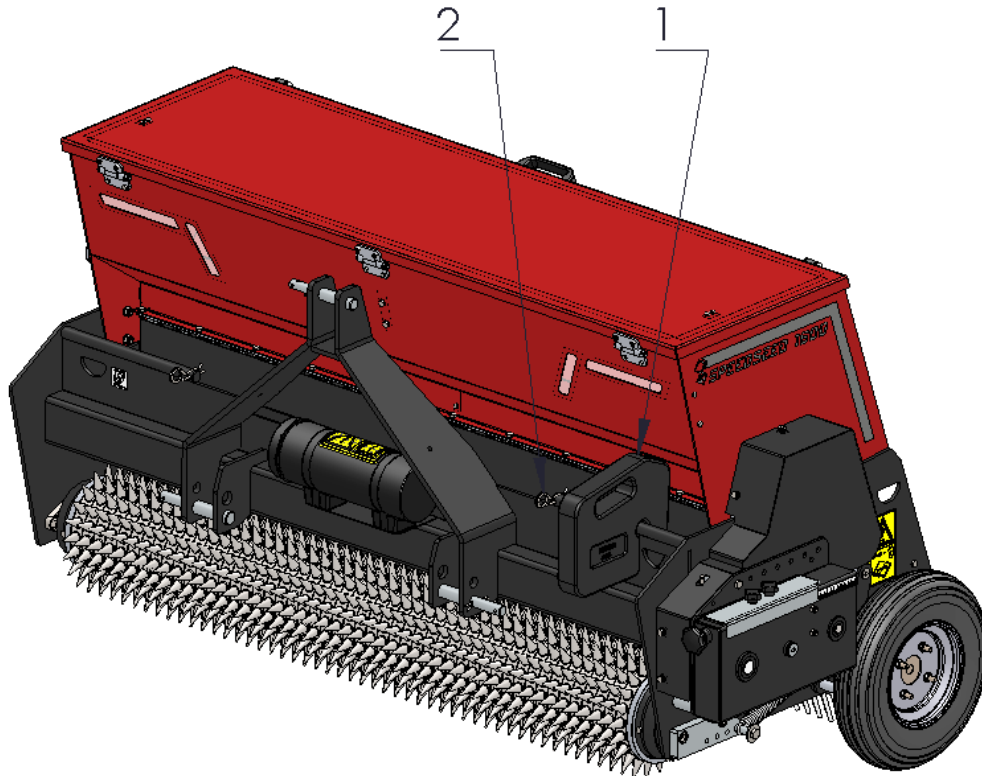

Figure 7
Standard, the Speedseed is equipped with a front bar to which the weights (1) can be attached (see **Figure 7**).